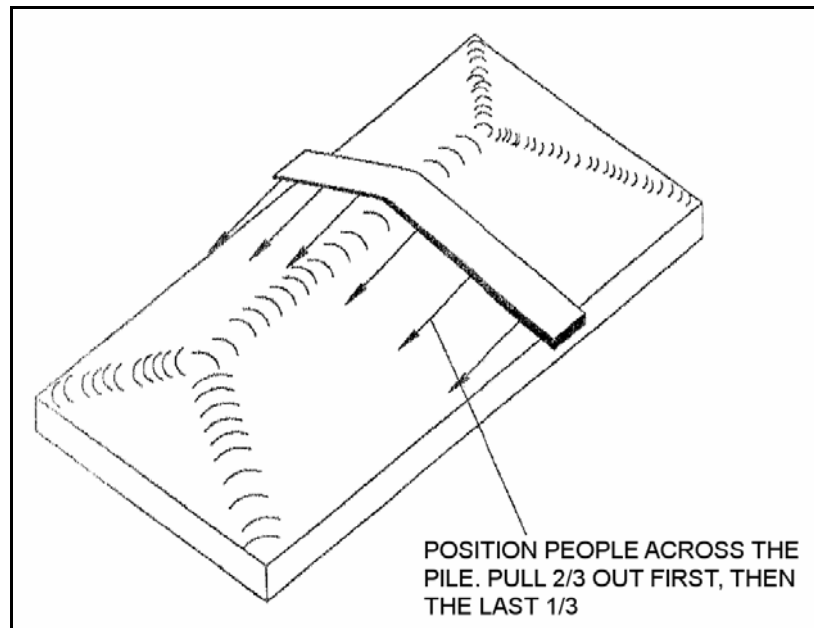

Figure 4.4
4. Position 6 to 8 people across the cover and pull it out to cover two thirds of the pile. Then, do the same with the last one third of the pile. Pull cover tight. Turn on the fans. See Figure 4.4.